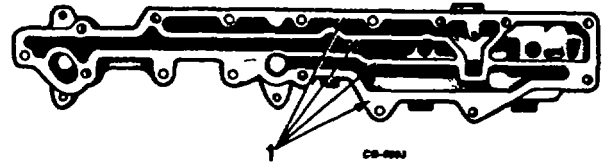

Figure 180. Oil Filter and Cooler Base
2. Inspect gasket surfaces of base for nicks or scratches which could cause leakage. Replace base if damaged (Figure 180).